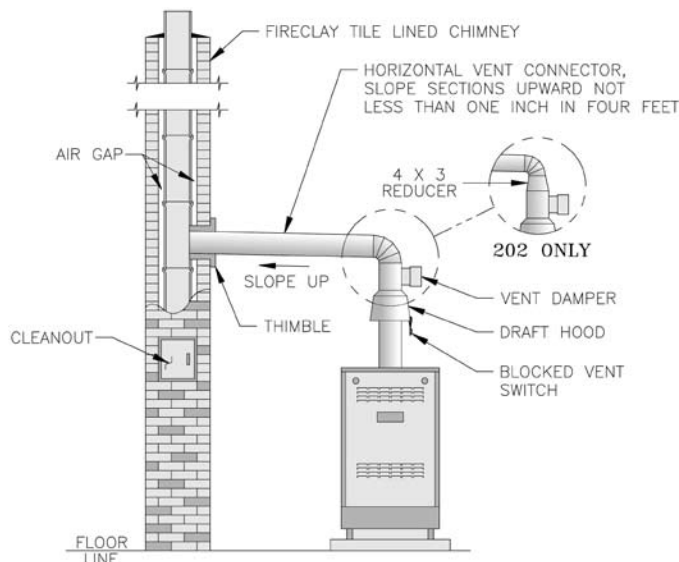

Figure 8: Typical Vent Installation
- 13. INSTALL VENT CONNECTOR** from reducing fitting (202 Only), draft hood or damper to chimney, see Figure 8.